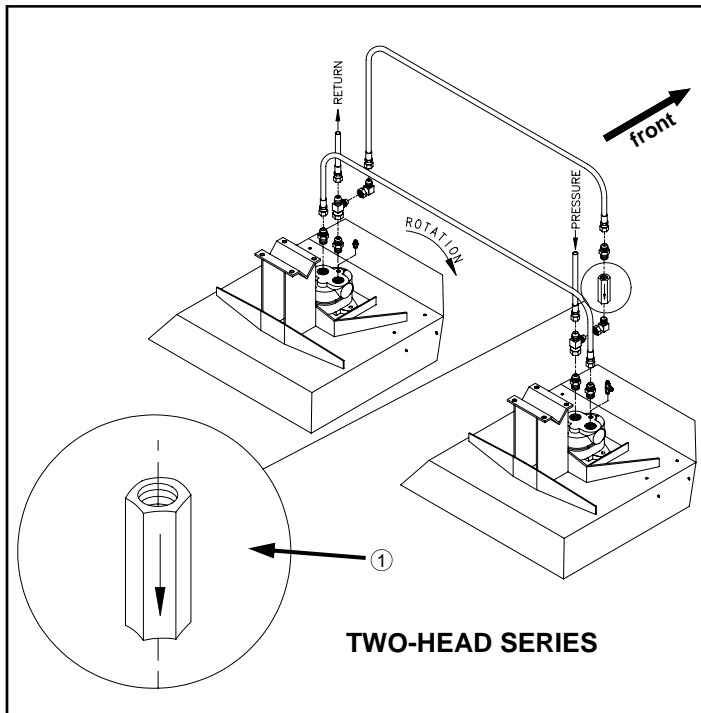
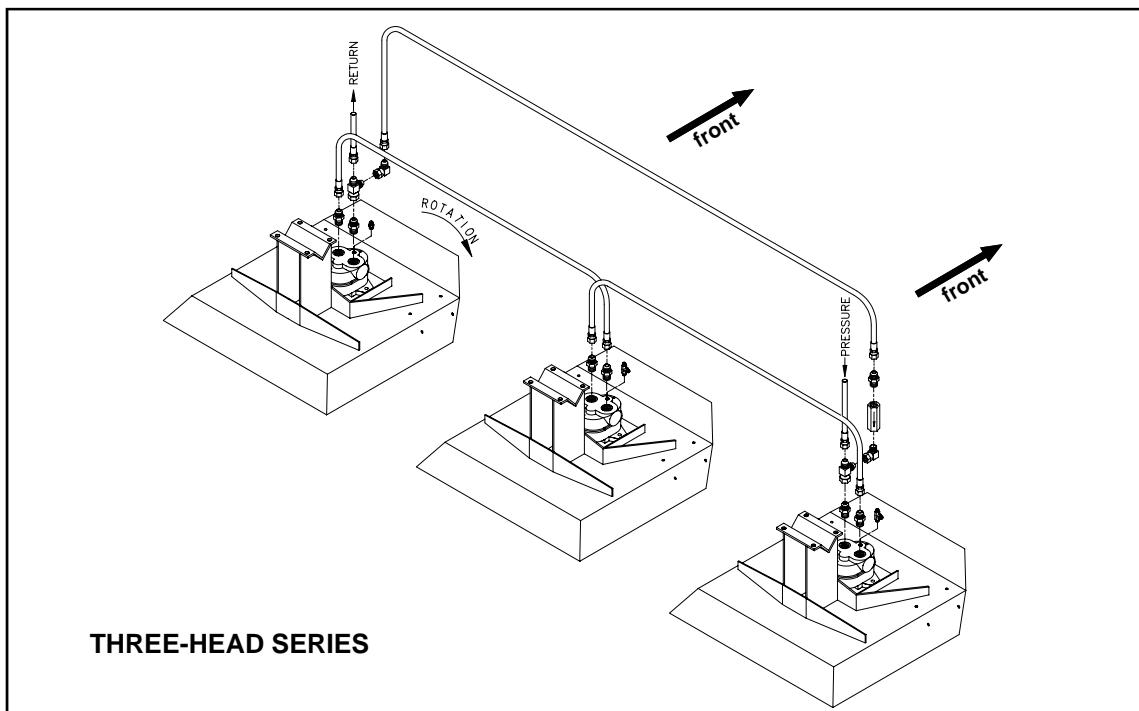

FIG 3.23
FIG 3.24
Hydraulic hoses on cutter heads should be hooked up so blades on heads mounted right of operator rotate according to figure 3.23 and figure 3.24 (clockwise from above). Refer to 2101 SPRAYER/DETASSELER Parts Manual for correct hardware, hose lengths, and hydraulic schematic.
Care should be taken when installing check valve (fig. 3.23, item 1) on cutter motor so the flow arrow is oriented correctly (either two-head or three-head series).